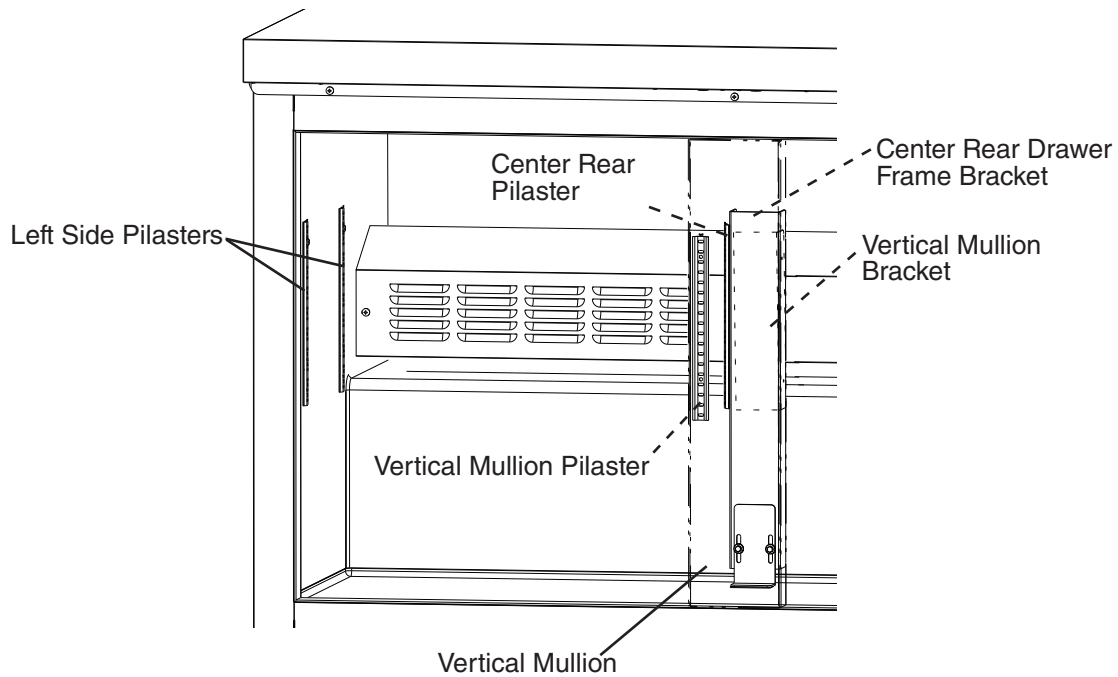

Fig. 30
- 8) Place and secure the pilasters and shelf support clips in their new location. See Fig. 30. Replace the shelf.